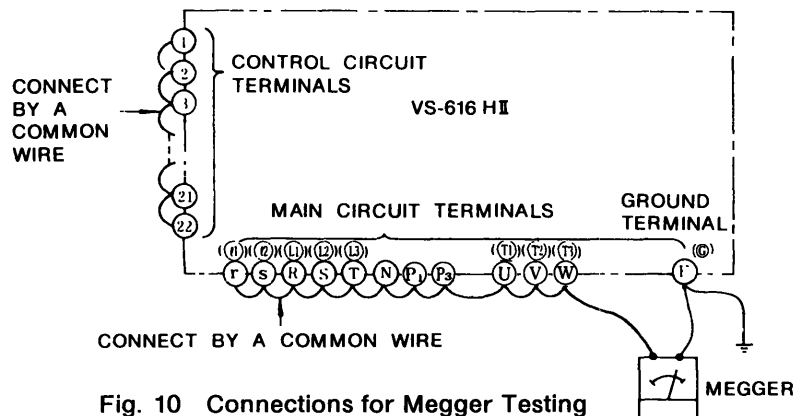

Fig. 10 Connections for Megger Testing
Connect the AC input, output terminals Ⓡ (ℓ1), Ⓢ (ℓ2), Ⓡ (ℓ1), Ⓢ (ℓ2), Ⓣ (ℓ3), Ⓝ, Ⓟ1, Ⓟ3, Ⓤ (Ⓣ1), Ⓥ (Ⓣ2), and Ⓦ (Ⓣ3), by a common wire, and connect the control terminals ① - ②② (excluding ④, ⑪, ⑲) by a common wire as shown in Fig. 10. After that, measure the insulation resistance between the common wire of input/output terminals and ground with a megger. Never measure the insulation resistance of circuit other than main circuit (power line). For both the input and output terminals, a reading above  $1M\Omega$  is considered satisfactory.